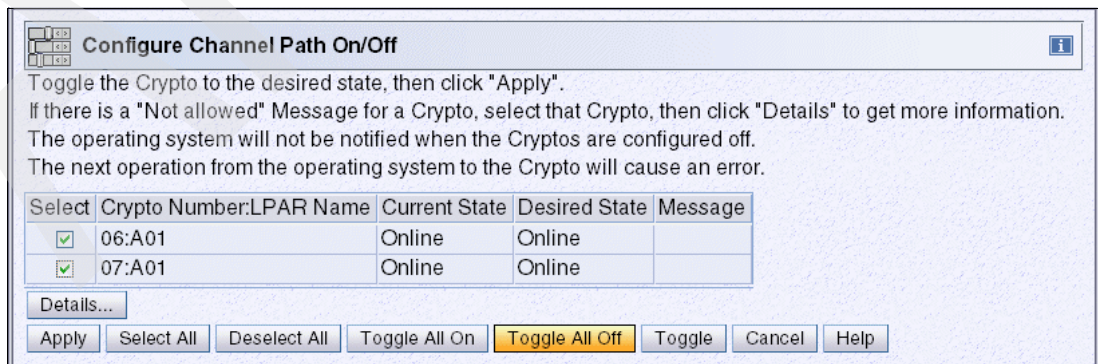

Figure 8-38 SE Crypto Config On/Off (Toggle All Off)
- Select all crypto channel numbers you want, click **Toggle All off** to switch from Online to Standby in the desired state (Figure 8-38).